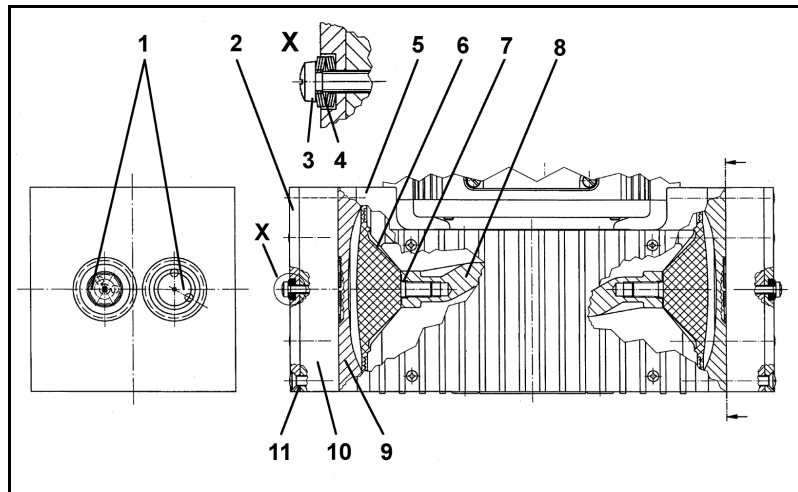

Fig. 11: Cross section of pump heads for pump N 860.3 FT.40.18 (symbolic)
3. At both pump heads make a mark (M) on the top plate (fig. 11/2), head plate (10), intermediate plate (9), and housing (5) with a felt-tip pen. This is to ensure that the parts will be reassembled correctly at a later stage.
4. Undo the eight screws (11).
5. Lift the pump heads off the housing (5).
1. Turn the fan to bring the diaphragm (6) of one pump head to medium position.
2. Place the intermediate plate (9), with valve plates/sealings (1), on the housing, in the position indicated by the marking (M).
3. Place the head plate (10) on the intermediate plate (9) in the position indicated by the marking (M).
4. Place top plate (2) in position and insert screws (3) with disk springs (4), and tighten them until the screw heads are just fully seated (do not completely tighten them!).
- i** The concave side of the first three disc springs must point away from the screw head, the next three towards it (see fig. 11, detail X).